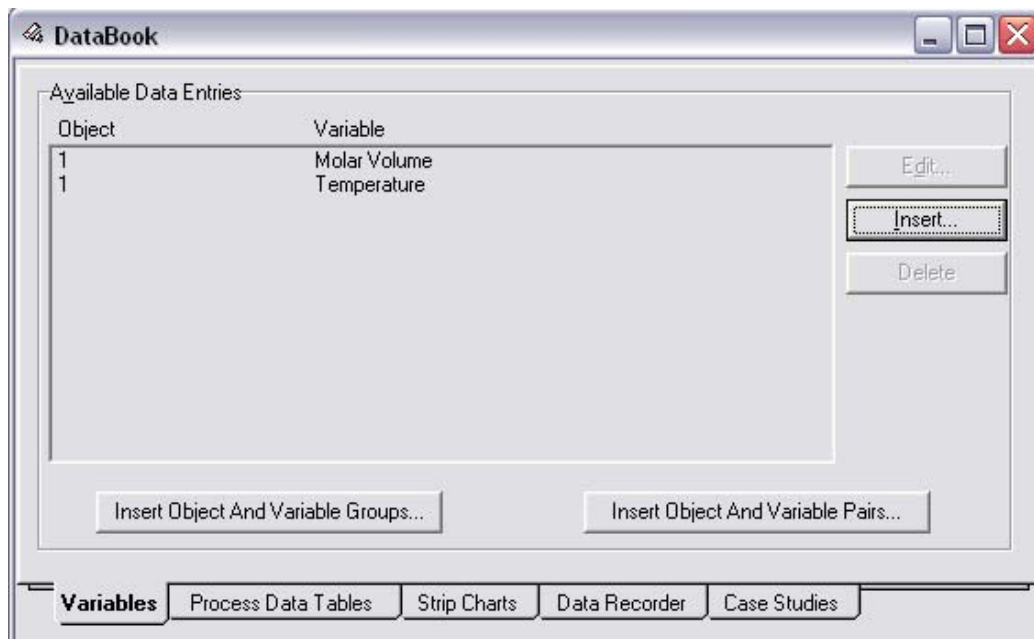

Figure 2-10
- Repeat step 3 to insert **Temperature**. The new updated Databook is shown in Figure 2-10.